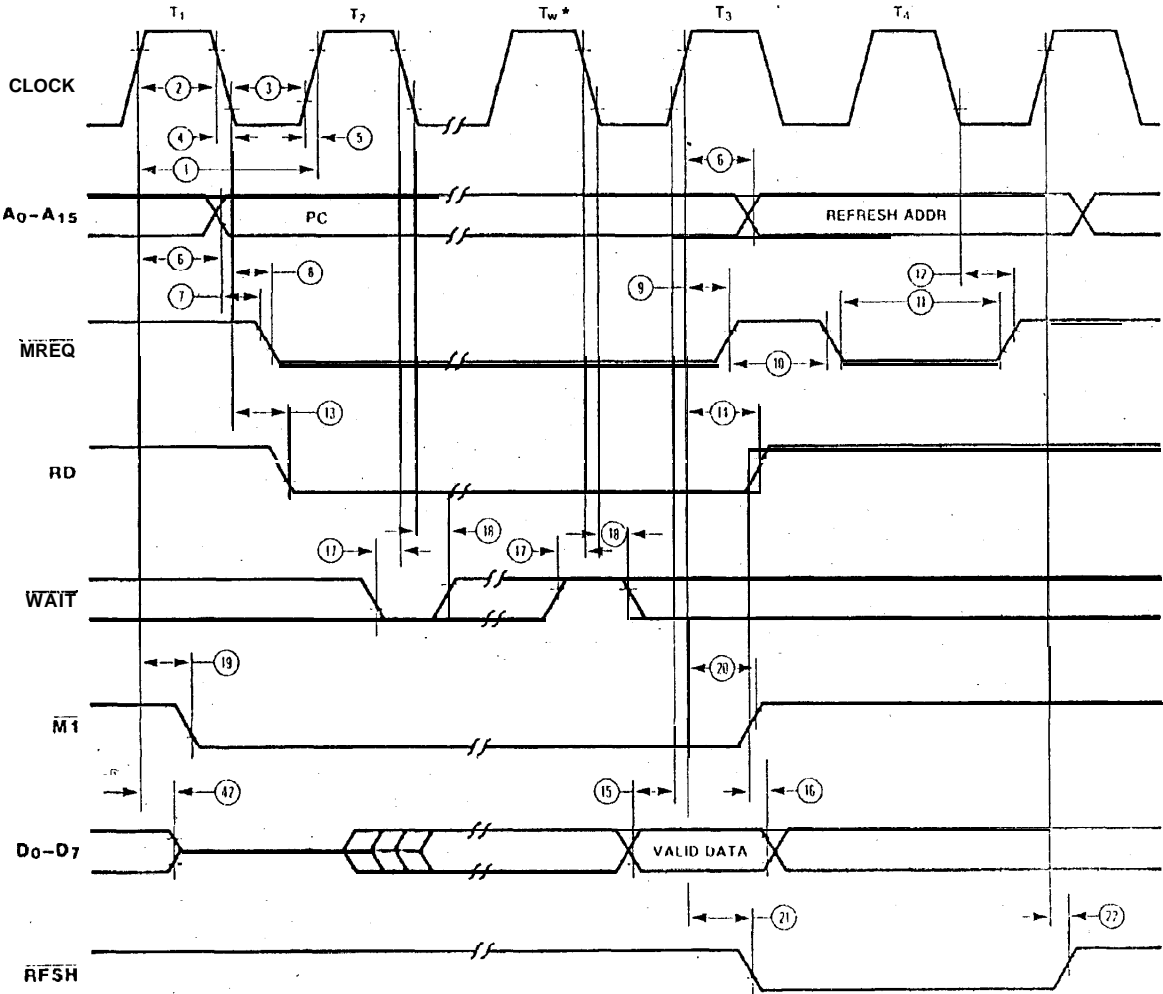

Figure 5. Instruction Opcode Fetch
Instruction **Opcode** Fetch. The CPU places the contents of the Program Counter (PC) on the address bus at the start of the cycle (Figure 5). Approximately one-half clock cycle later, **MREQ** goes active. When active, **RD** indicates that the memory data can be enabled onto the CPU data bus.